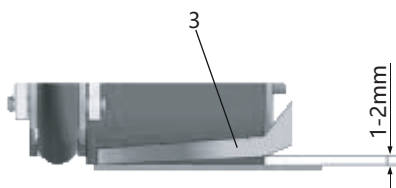

Figure 5
- 1、 The distance between hot air nozzle and ground should be shown as figure 5 (We have adjusted the distance) .